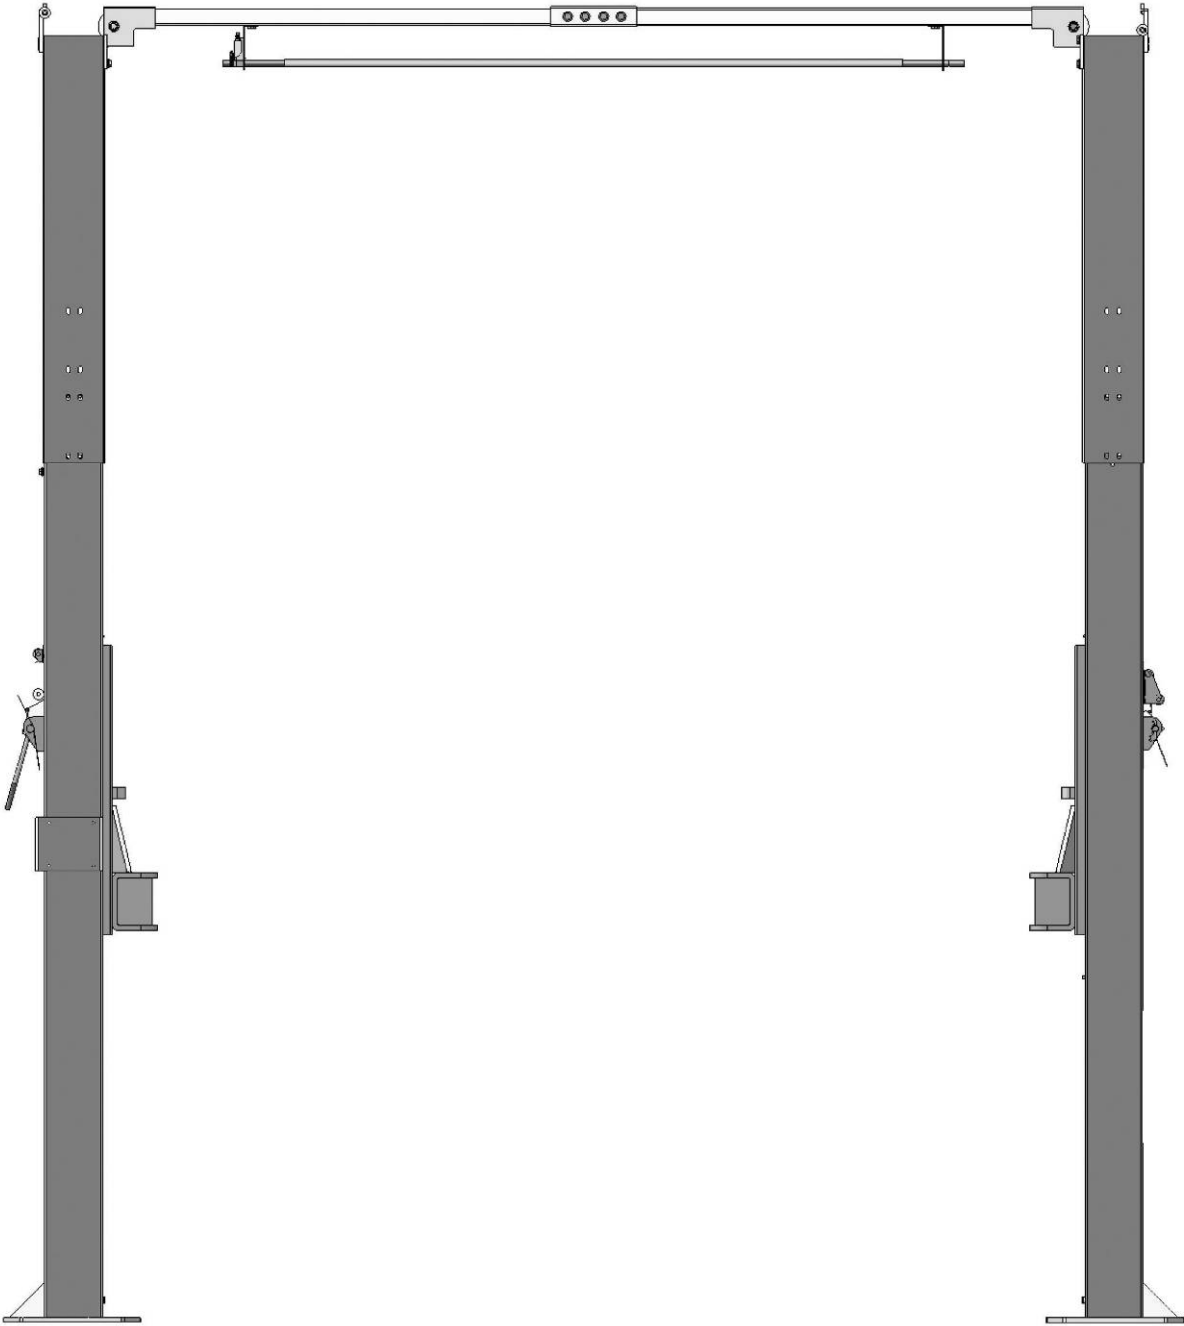

Fig. 22
J. Lift the carriages up to about one meter high by hand and make them be locked at the same level (**See Fig. 22**).